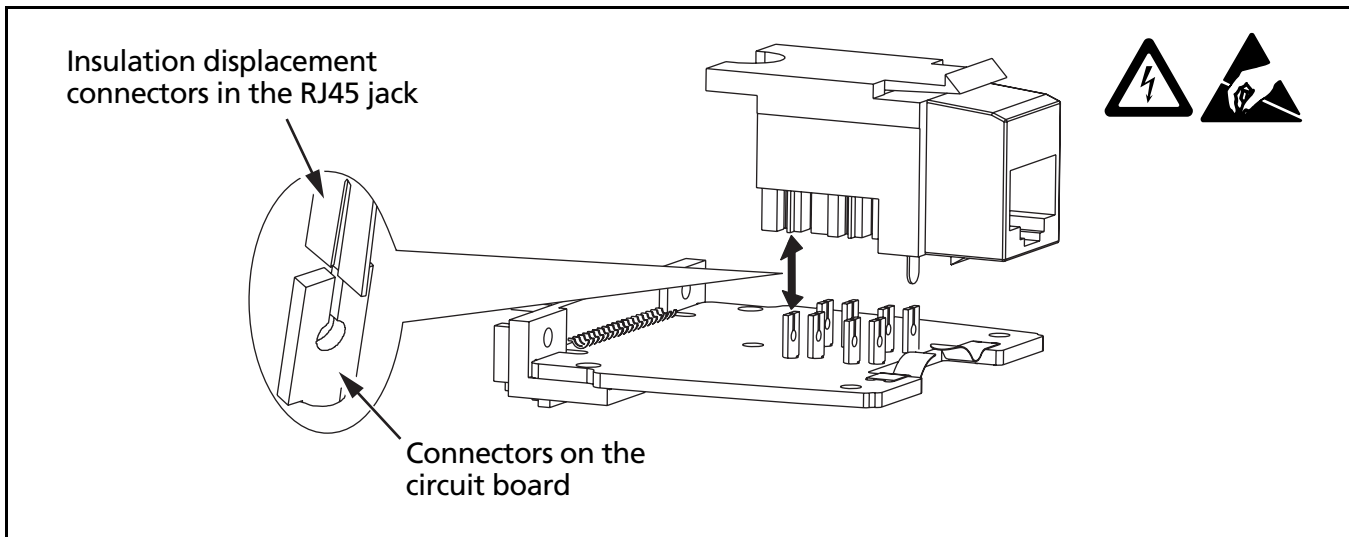

Figure 3. Replacing the RJ45 Jack
- 3 Pull the RJ45 jacks off the circuit boards (Figure 3), being careful not to stress the boards.
- 4 Align the new RJ45 jacks on the connectors on the circuit boards. Note in Figure 3 how the insulation displacement connectors in the jacks slide into the connectors on the circuit boards.